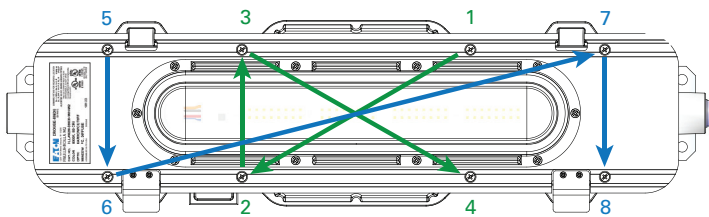

Figure 1. PLLA2 Driver housing screw locations
2. Ensure all driver cover screws are free from driver housing (see Figure 1). Screws are a captive type and should not be fully removed from the light engine assembly
14. Re-position LED light engine fitting using latching clips. Verify that no luminaire wiring is pinched or trapped between light engine and driver housing. Start all screws prior to tightening making certain none are cross threaded. Finish tighten all eight (8) cover mounting screws to a torque of 23 in.-lbs. (2.6 N-m) using the bolting sequence directed in Figure 1.